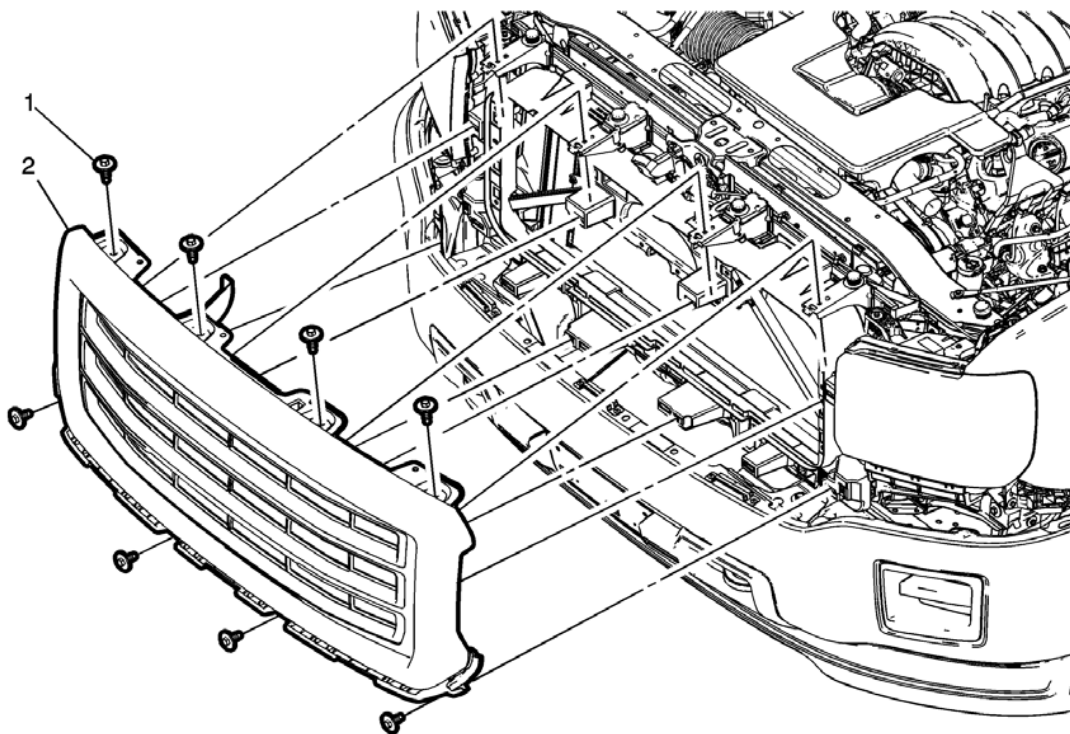

Figure 4
- D. Remove the fasteners connecting the grille to the frame. 8x15mm bolts, indicated by callouts 1. At this point 8 clips are holding the grille in place. Starting around either end of the grille carefully pull grille away from truck (Ref. Figure 4).